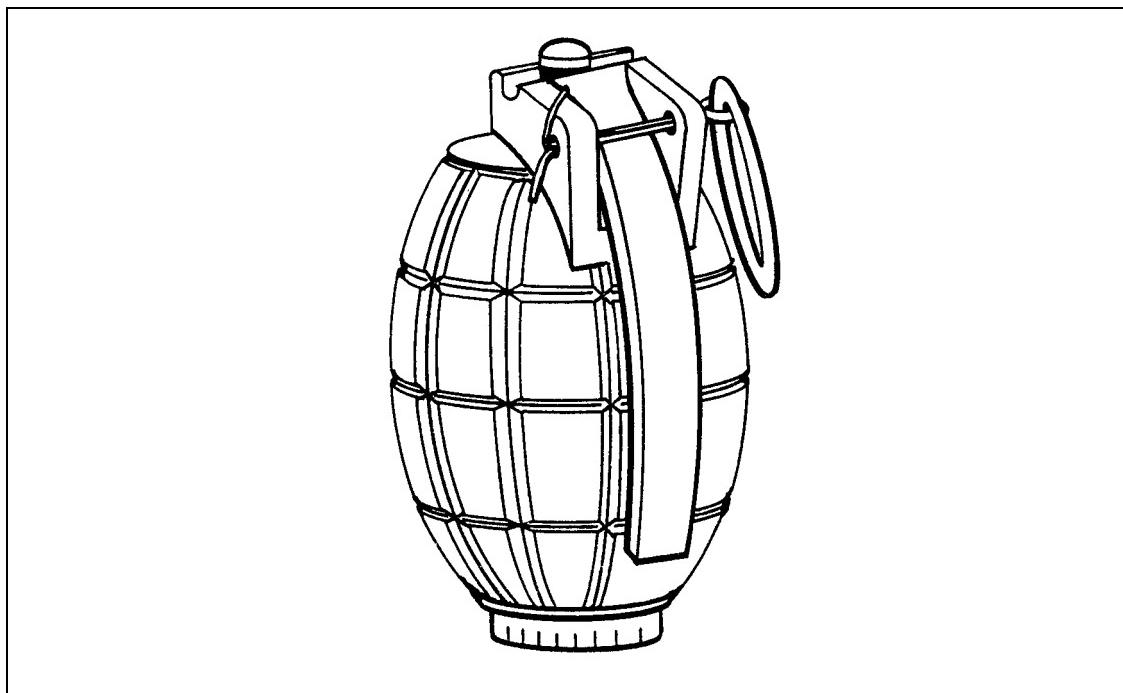

Figure F-13. No. 36M hand grenade.
- Type: Defensive. (Figure F-13)